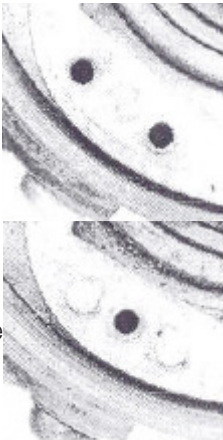

Fig. 6
- PART NUMBER 2563LS, Position the Ignitor plate over the condenser mounting point of the breaker plate. There are both single and dual screw condenser mounting configurations (See Figure 6). The Ignitor plate fits over both types. Confirm that the Ignitor plate is flat and fits without any modification. Fasten the plate in place using the provided screw or screws. **NOTE: IAP Series distributors require the removal of the point adjustment eccentric screw.**